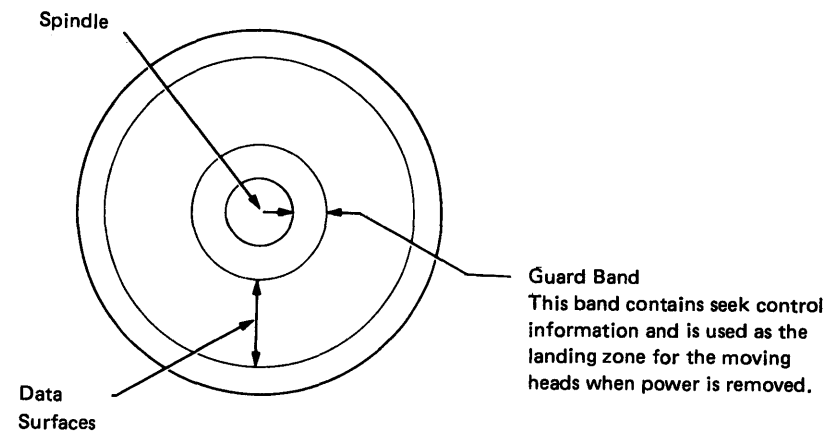

Figure FA452-3. Data Surface
**Data Surface.** Each data surface (Figure FA452-3) has 360 concentric data tracks, each of which has 32 sectors. A factory-written sample servo used for track following is contained in each sector. Each track has a reserved sector to which failed sectors are reassigned.